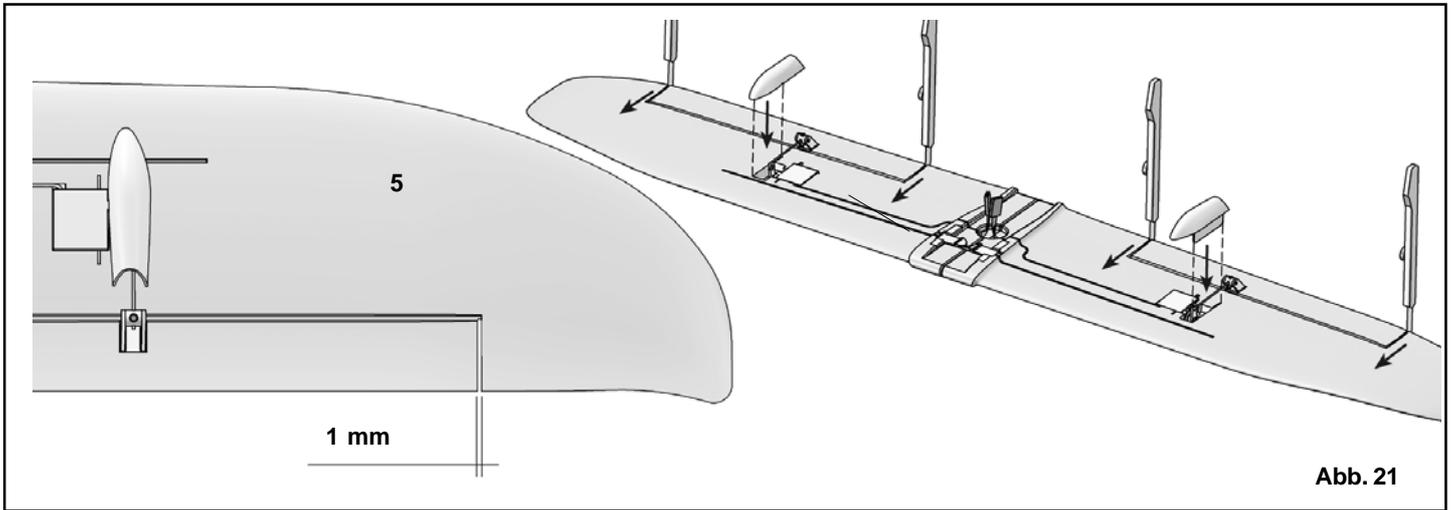

Abb. 21
5.3 Releasing the ailerons, Fig. 21